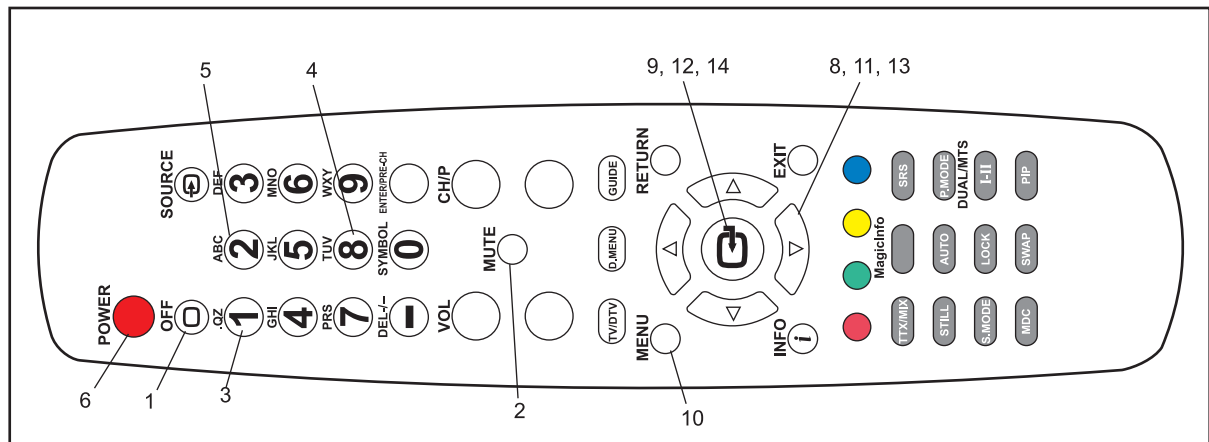

Figure 22. Remote
1. Press the “OFF” button on the remote. Refer to *Figure 22*.
2. Press the “MUTE” button on the remote. Refer to *Figure 22*.
3. Press the “1” button on the remote. Refer to *Figure 22*.
4. Press the “8” button on the remote. Refer to *Figure 22*.
5. Press the “2” button on the remote. Refer to *Figure 22*.
6. Press the “POWER” button on the remote. Refer to *Figure 22*.
8. Scroll down to “RESET.” Refer to *Figure 22 & 23*.
9. Press the Enter button on the remote. Refer to *Figure 22*.
10. Press the “MENU” button on the remote. Refer to *Figure 22*. A new menu will appear. Refer to *Figure 24*.
11. Scroll down to the Screen icon. Refer to *Figures 22 & 24*.
12. Press Enter on the remote. Refer to *Figure 22*.
13. Scroll down to “Auto Adjustment.” Refer to *Figures 22 & 24*.
14. Press the Enter button on the remote. Refer to *Figure 22*.